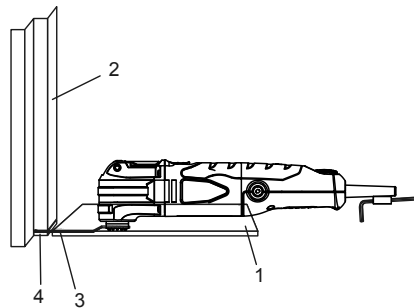

Figure 6
2. Place a scrap piece of floor tile (1) on the floor about 1/2" (12.5 mm) from the door jamb (2). (Figure 6)